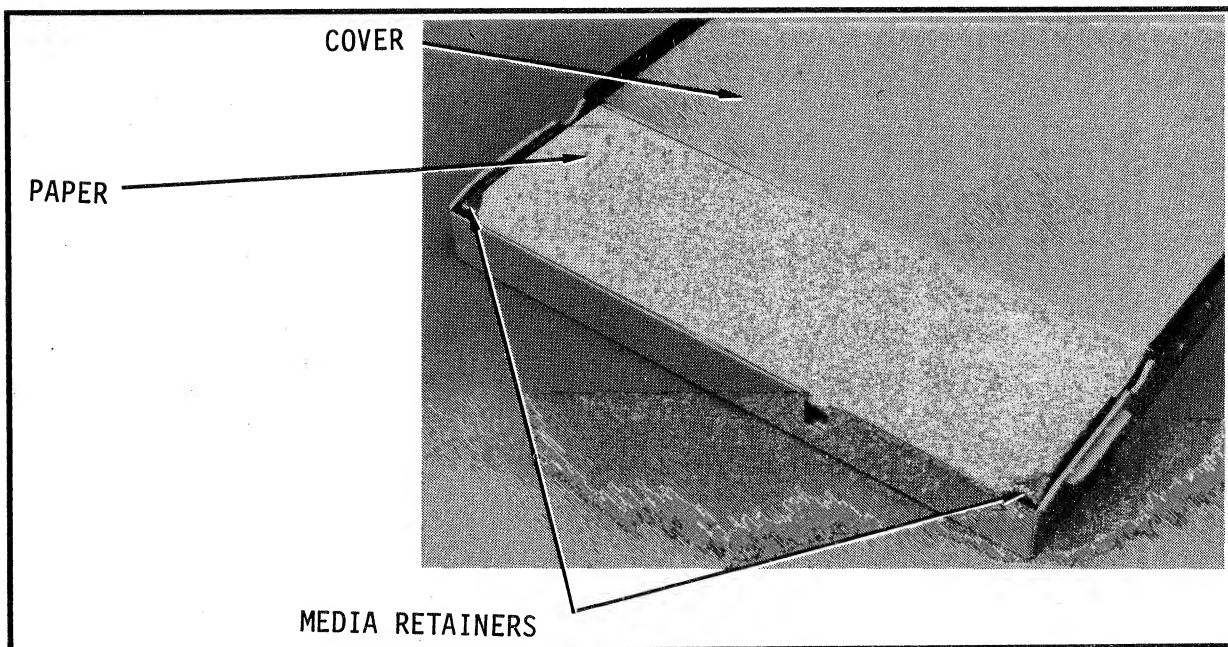

Figure 3-9. Loading Paper
4. Install the paper in the media cassette. Make sure the media retainers are both sitting on top of the paper stack (Figure 3-9).